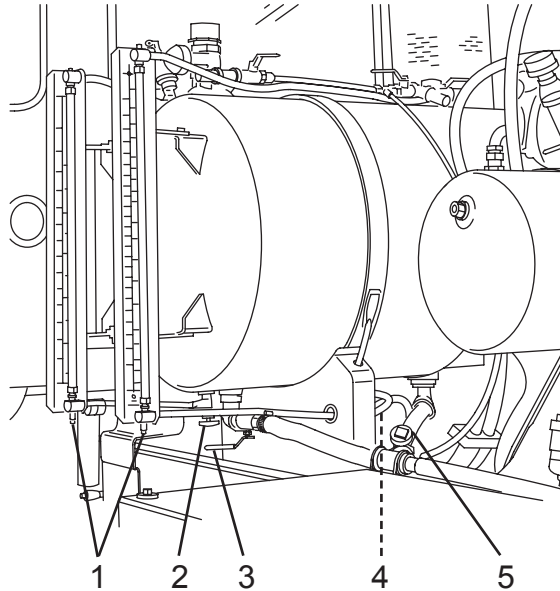

Figure 80
2. Remove the water tank drain plug(s), or open the main tank (Figure 80, Item 5) and chemical tank (if equipped) drain valves (Figure 80, Item 3).
3. Open the main tank (Figure 80, Item 4) and chemical (if equipped) sight glass isolator valves (Figure 80, Item 2).
4. Open the sight glass drain valves (Figure 80, Item 1).